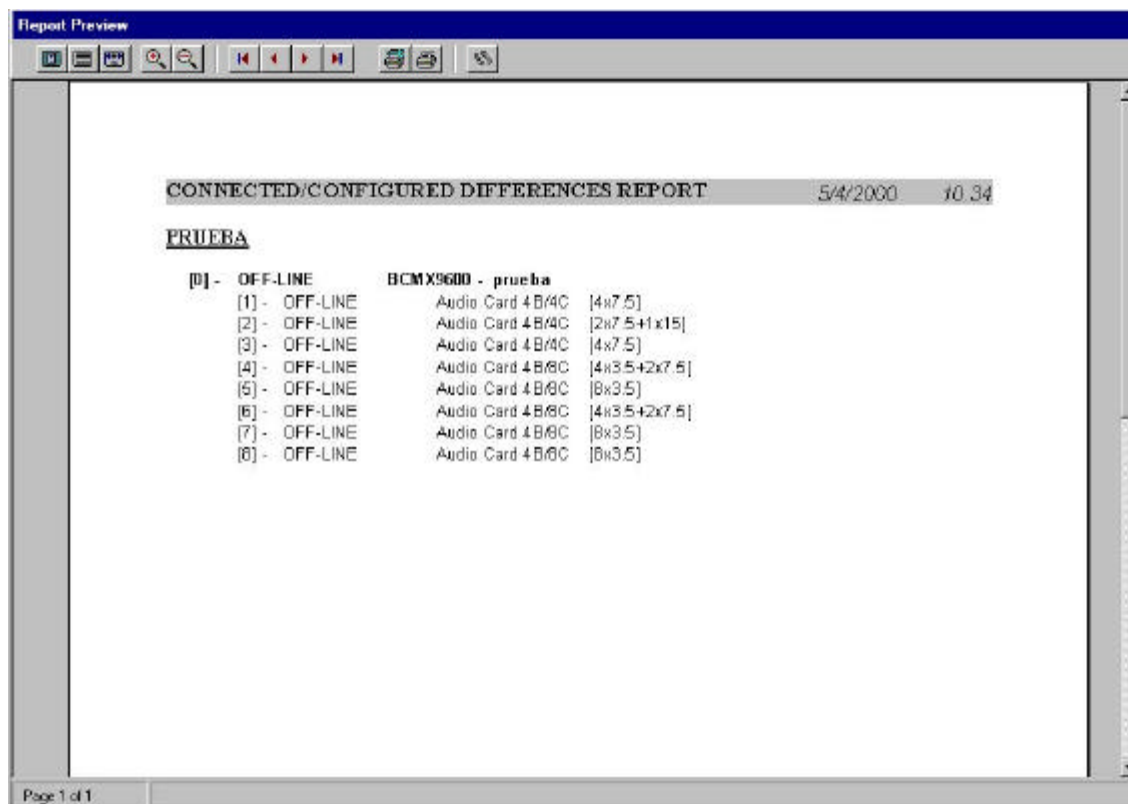

FIG. 21
- Differences between connected / configured devices (*figure 21*).